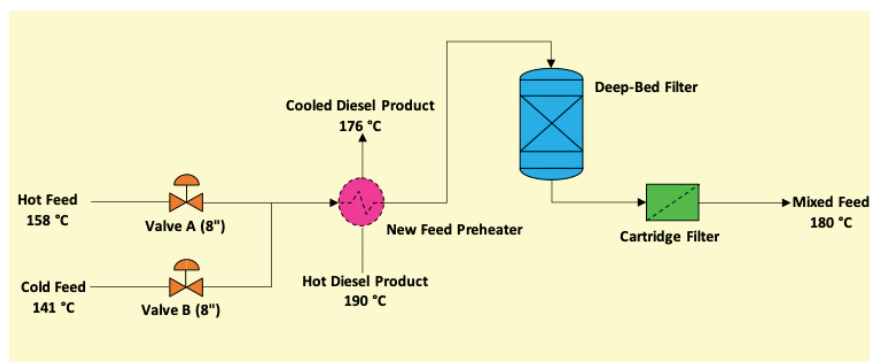

FIGURE 4. The diagram represents the hydrocracker feed system discussed in Example 1 with its new feed preheater
1. Hydrocracker feed preheater. In this example, a new feed preheater was to be designed and installed during the refinery turnaround to reduce the energy consumption of a hydrocracker unit. As illustrated in Figure 4, a mix of two liquid feed streams will be heated up by a hot diesel product from a diesel hydrotreater. Subsequently, this mixed-liquid feed stream must go through two stages of filtration to remove solid particulate matter, which can plug the front beds of the hydrocracking reactor.
This new feed preheater must fit into the existing system without causing flow-control issues. As a general guideline, Valve A and Valve B in Figure 4 should have %Travel less than 80, a typical maximum %Travel for reasonable flow control.